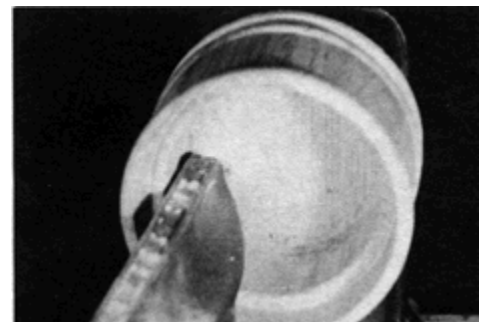

Figure 14
41. Position the tool rest inside the blank (see **Figure 14**).